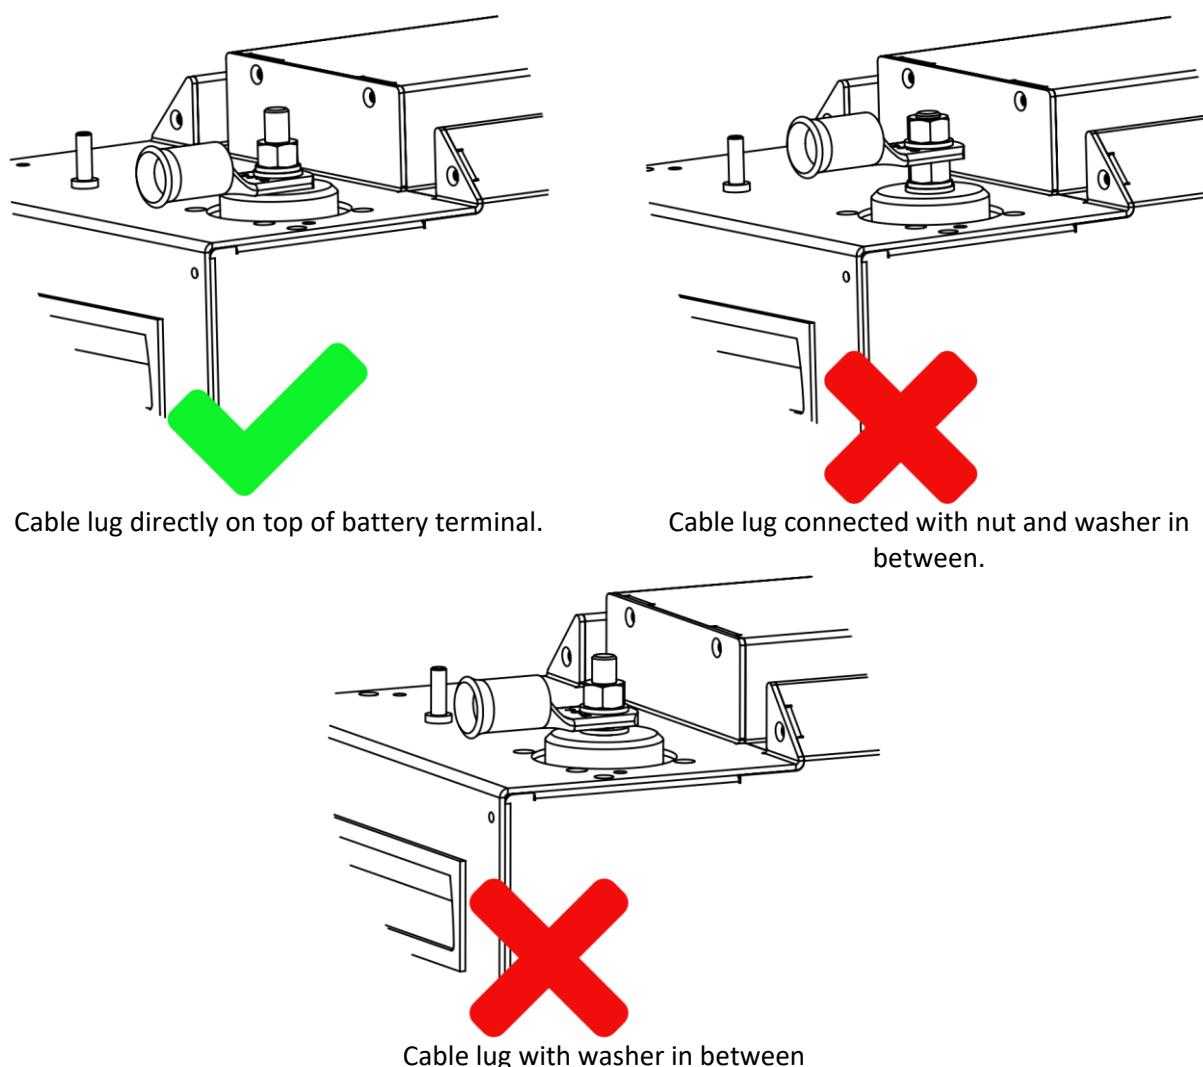

Figure 18 - Battery pole connection
3. Connect a power cable with M8 cable lug to the M8 bolt as shown in Figure 18.